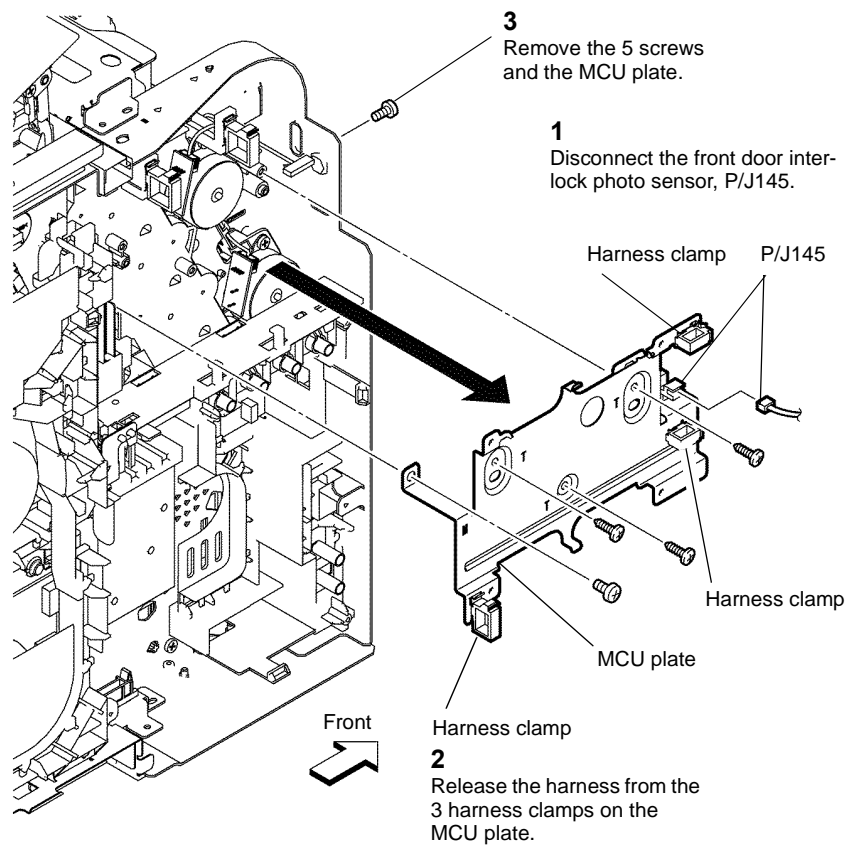

Figure 1 MCU Plate
3. Remove the MCU Plate, Figure 1.